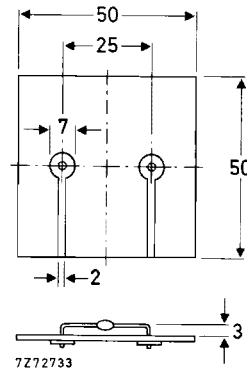

Fig.3 Mounting on pcb used for R_{th} measurement.
device mounted as Fig.3, $T_{amb} = 25^\circ\text{C}$
- a. mounted as Fig.3
2. Junction to ambient thermal resistance, mounted as Fig.3